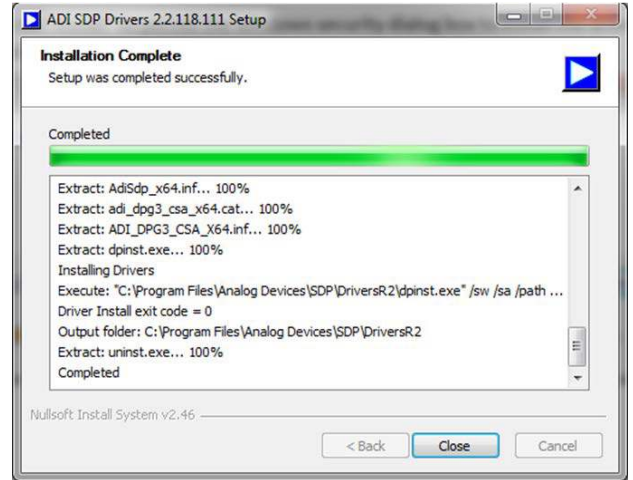

Figure 12. SDP-H1 Driver Installation Complete
10. When the driver installation is complete (see Figure 12), click **Close** to exit the installer and then restart the PC before using the EVAL-AD7134FMCZ.